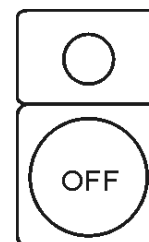

Figure 20. OFF Button
3. Press the **OFF** button (Figure 20) on the digital controller to shutdown the engine.
2. Press the **OFF** button (Figure 20) on the digital controller to shutdown the engine.